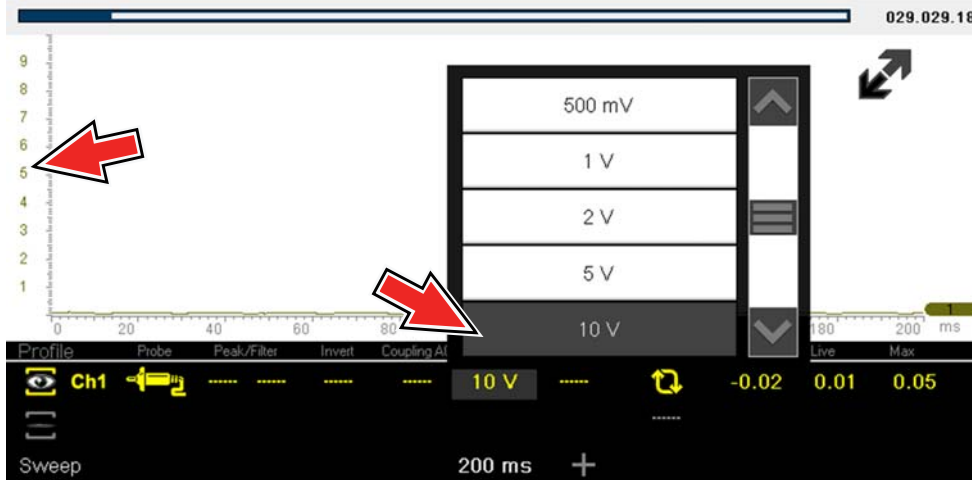

Figure 12-29
**Example (Figure 12-29):** Selecting 10V, changes the vertical scale to a 10V volt scale. The vertical scale is “always” divided by 10, therefore each division is incremented by 1V.